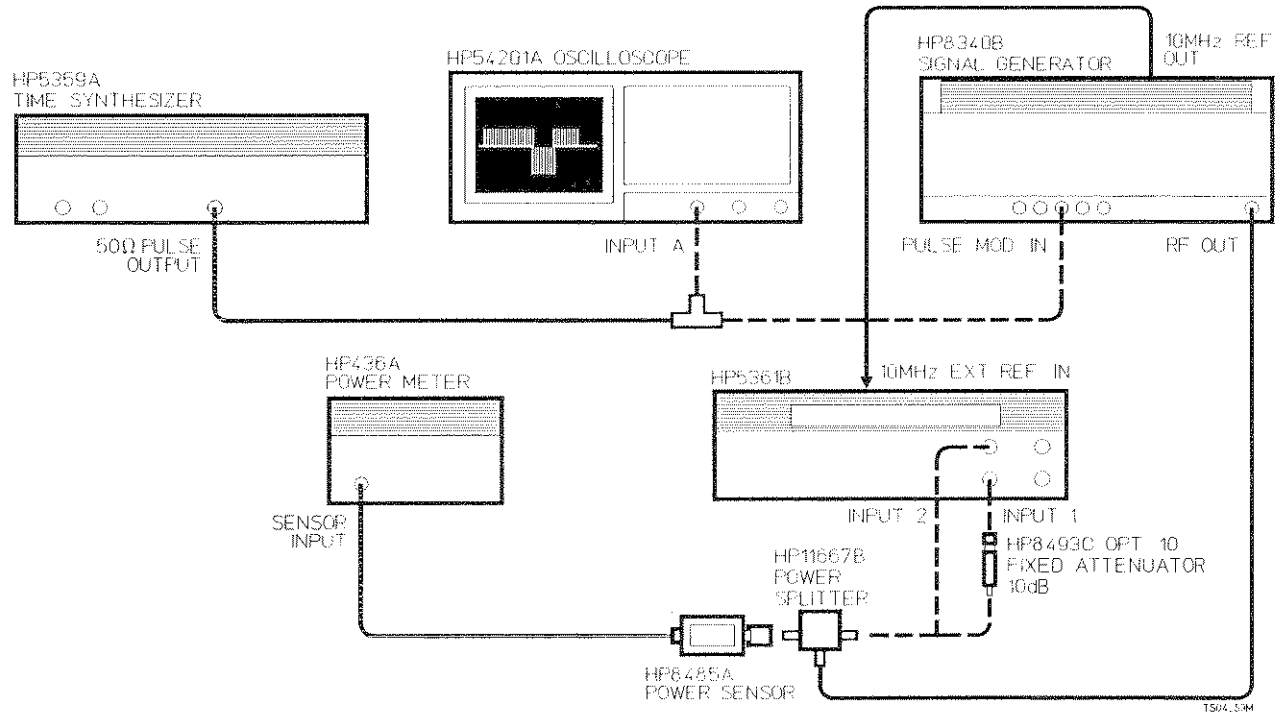

Figure C-1. Setup 1: CW/Pulse, 10 MHz - 26.5 MHz
**Description:** The counter is set to the 10 MHz - 525 MHz range, 50  $\Omega$  impedance, and a 25 mV rms ( $-19.3$  dBm) signal is applied to Input 2 as shown in *Figure C-1*. The test generator is set to selected frequencies and the 5361B is checked for proper
**Description:** The counter is set to the 500 MHz - MAX GHz range and the appropriate input signal is applied to INPUT 1 as shown in *Figure C-1*. The generator is set to various frequencies/levels and the actual sensitivity of the HP 5361B is then measured.
2. Connect the equipment as shown in *Figure C-1* (INPUT 1 path). Do not install the 10 dB attenuator pad for CW measurement.
The following specifications, setup illustration, and test steps describe the INPUT 1 pulsed RF sensitivity for the HP 5361B within 500 MHz - MAX GHz frequency range. *Figure C-1* shows the test setup.